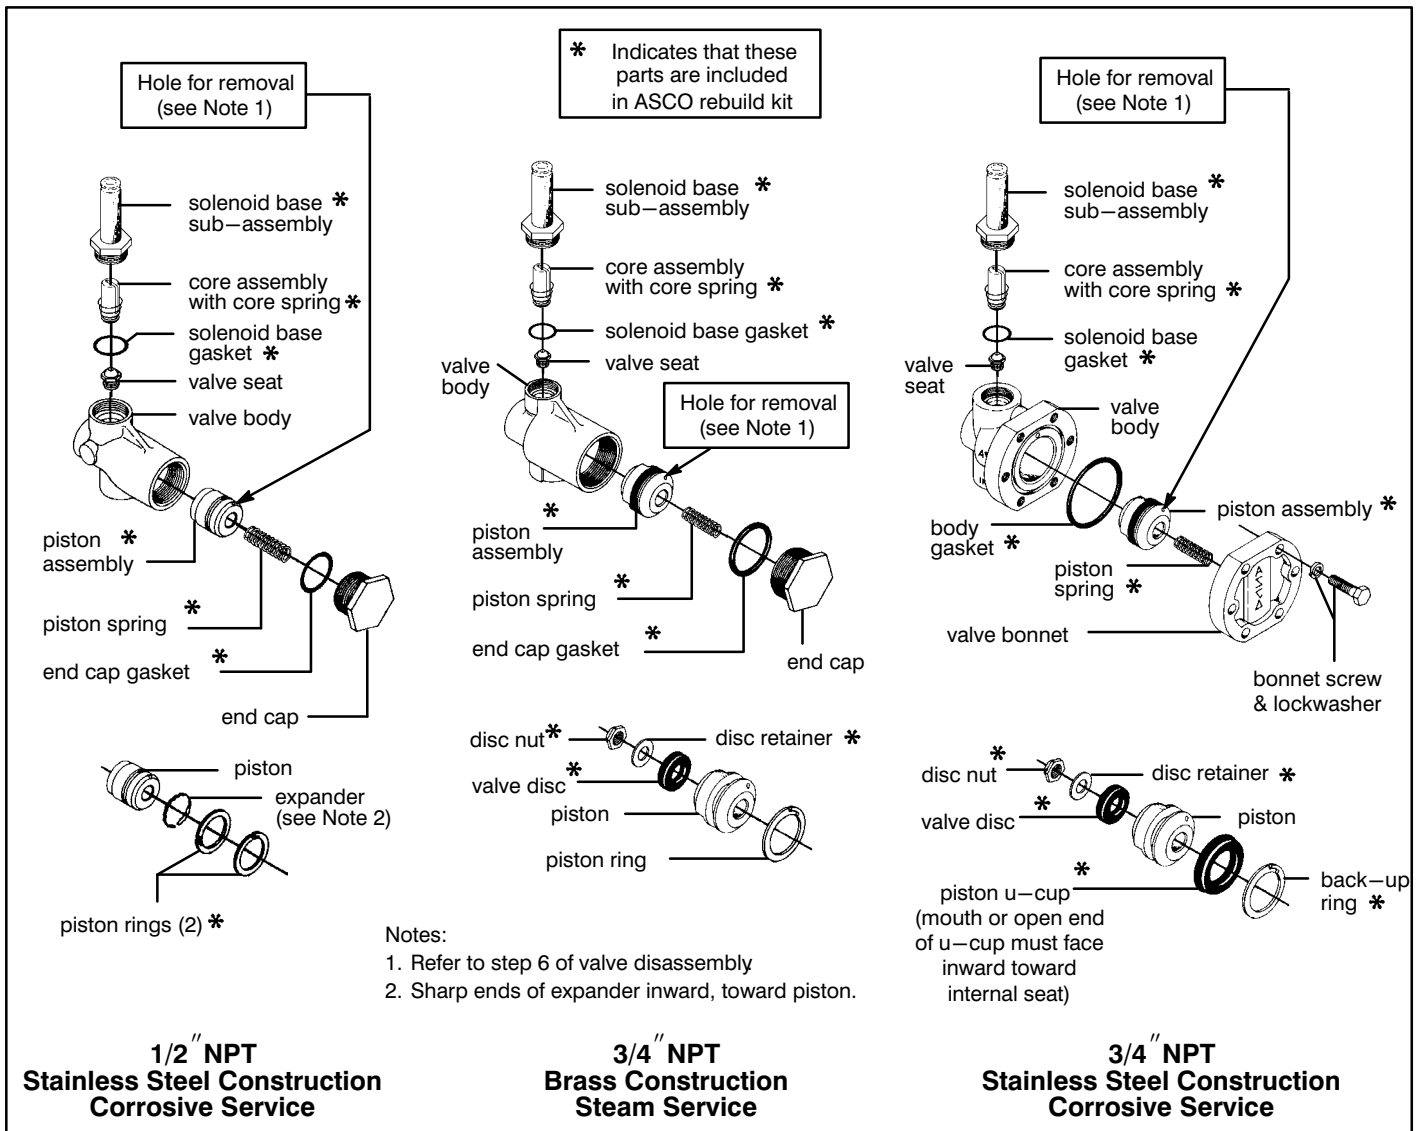

Figure 1. Series 8223 valves without solenoids.
2. Assemble valve as shown in Figure 1 below. See *Torque Chart* for torque values required. For 3/4" NPT cast stainless steel construction, hand thread screws into valve body and torque in a crisscross manner.